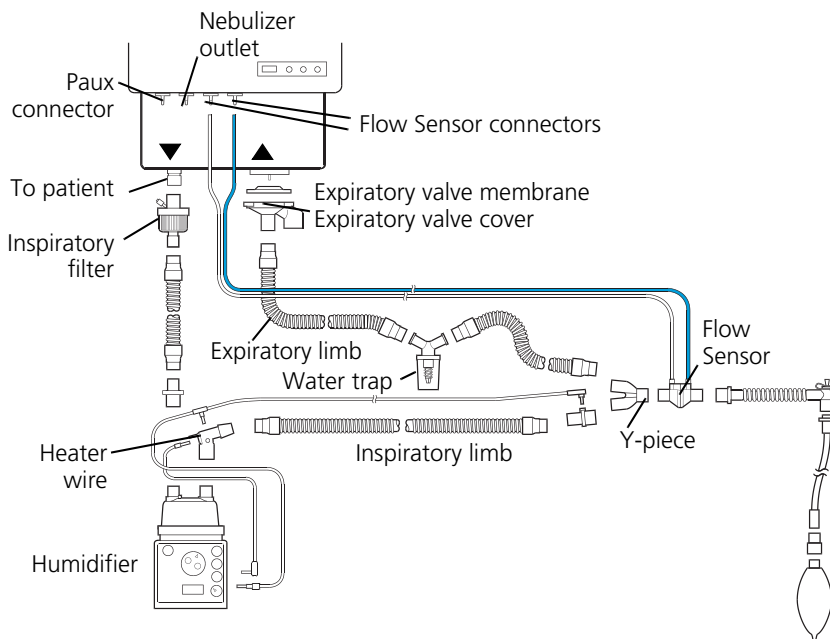
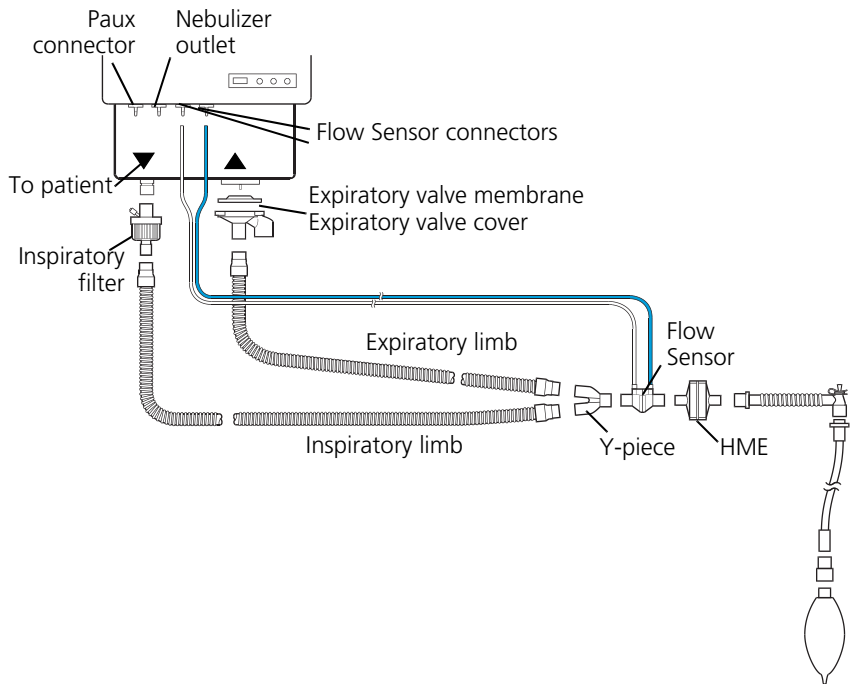

Figure 2-5. Patient breathing circuit for use with inspiratory heater wire (pediatric/adult)
Figure 2-8. Patient breathing circuit for use with HME
2. Assemble the patient breathing circuit. Figure 2-5 through Figure 2-8 show four typical circuit configurations; for ordering information, see Appendix F or the HAMILTON MEDICAL *Product Catalog*. Follow the specific guidelines for the different parts.